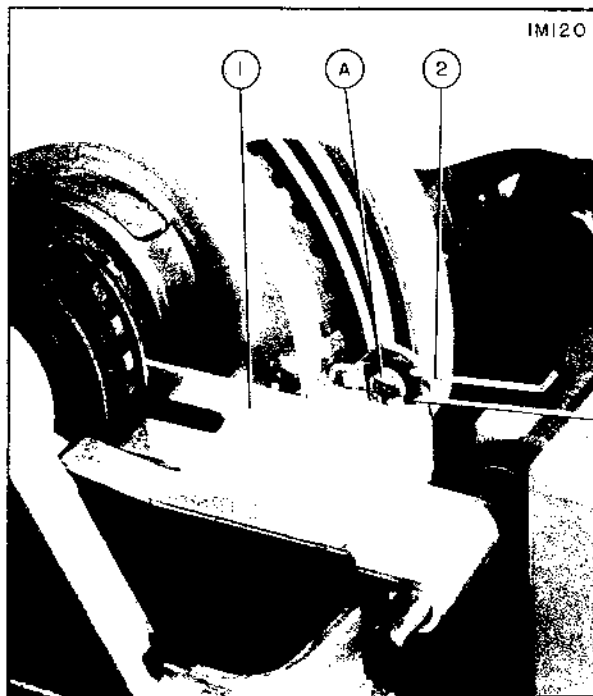

Figure 47
2. Disconnect leads from microswitch 53 (7). Note location for reassembly.
3. Loosen screw (A) on reel brake (1) and remove wire link (2). (Figure 47).